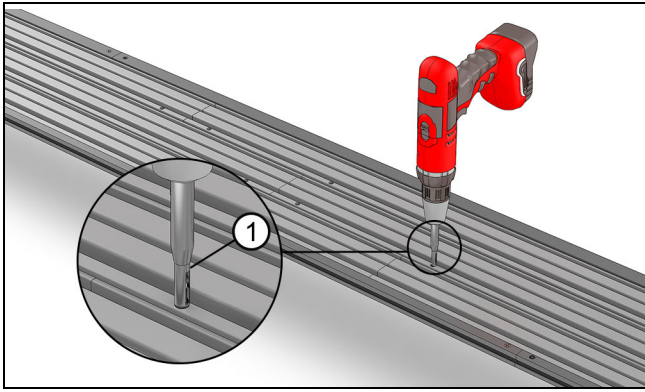

Figure 24
8. Drill pilot holes through the pre-drilled holes (found near the splice areas) using a 1/8" (3) Vix (self centering) drill bit. The depth cannot exceed 1/2" deep. See Figure 24.